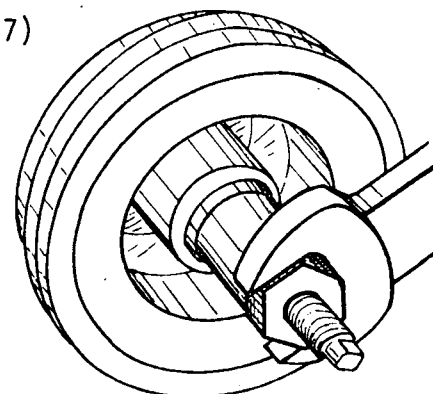

Fig. 7
- b) Install the securing bolt in the vibration damper (fig. 7) and tighten to the specified torque.